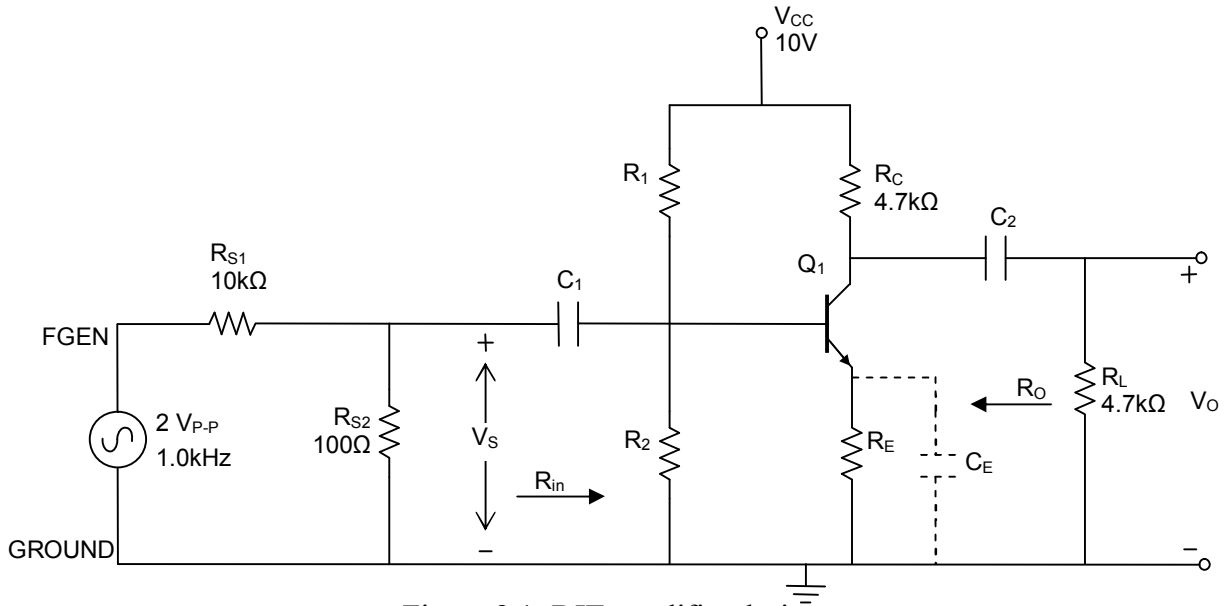

Figure 8.1: BJT amplifier design
3. Design the CE amplifier shown in Figure 8.1 to drive a $4.7\text{k}\Omega$ load using an npn silicon transistor and a power supply voltage of $V_{CC} = 10\text{ V}$ and $R_L = R_C$. The voltage gain of your circuit is to be $A_V = -10$. You should have already used the curve tracer to determine the β and V_{BE} of the transistor you have selected. Your design should include the specification of R_1 , R_2 , R_C , R_E , R_O , V_{CEQ} , I_{CQ} , h_{ie} , and h_{ib} . **In this part of the experiment, C_E is not used.** You must design your amplifier for maximum symmetrical output swing. **See Design Procedure following this section for the equations needed for your design.** Assume that all coupling capacitors are large enough to pass your signal at 1kHz (i.e. $22\mu\text{F}$ or greater). Assume $R_C = R_L$ for your first design.
- b. **Build the circuit in Figure 8.1 but without R_{S1} , R_{S2} , R_L , the capacitors, and function generator**, as was illustrated in Figure 7.2. **Use the resistance values you determined in your pre-lab and set $R_C = 4.7 \text{ K}\Omega$** . You should use the nearest standard resistance values for the resistors R_1 , R_2 , and R_E , even if the design values are non-standard. Attempt to build your circuit using standard values of resistors before you resort to using the decade resistance boxes.
- a. Connect R_{S1} , R_{S2} , R_L , the capacitors, and the function generator to your circuit, as in Figure 8.1. The coupling capacitors need to be large enough to pass an ac signal of 1 KHz (22 μF or greater). In Figure 8.1, the voltage divider using R_{S1} and R_{S2} is an easy way to keep the input voltage swing low enough to keep the transistor from being driven into either saturation or cut-off. After you have built the circuit, check your input and output wave shapes. Take appropriate action if your output wave shape is distorted from a sine wave.
2. Build circuit in Figure 8.1 using resistors calculated in your design.